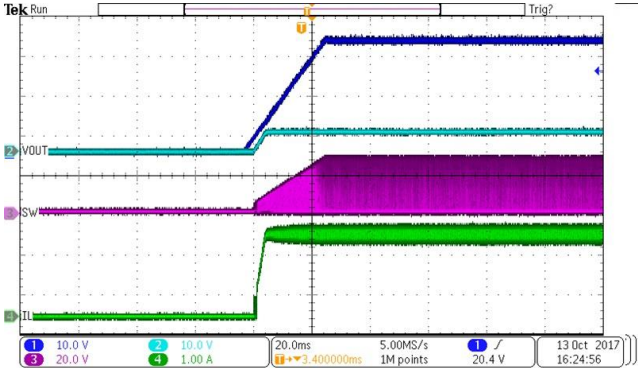

Figure 17. Power Up
The SCT2320 features external programmable output voltage by using a resistor divider network R1 and R2 as shown in the typical application circuit Figure17. Use equation (11) to calculate the resistor divider values.